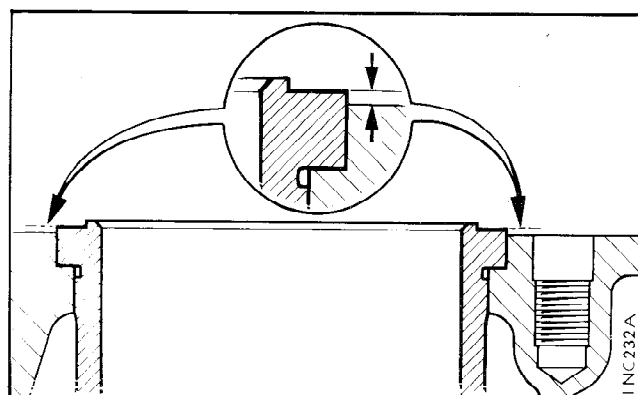

Fig. 6
- Cylinder liner standing height (refer to Fig. 6): ●